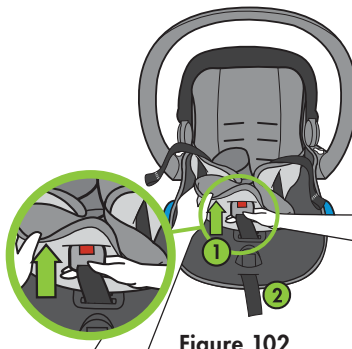

Figure 102
Push Crotch Strap up through opening in Carrier Cover (1) and route Adjuster Strap through front slot in Carrier Cover (2) as shown in **Figure 102**.